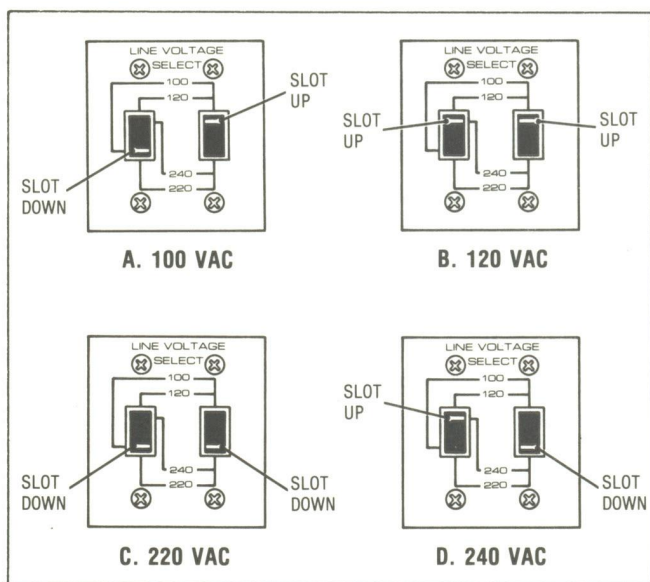

Fig. 13. Line voltage selection.
The LINE VOLTAGE SELECT switches (25) on the rear panel are simply set to the positions that correspond with the line voltage to be used. Insert a flat blade screwdriver into the slot of each switch and move the slots to align with the graphics indicating the desired voltage (see Fig. 13).